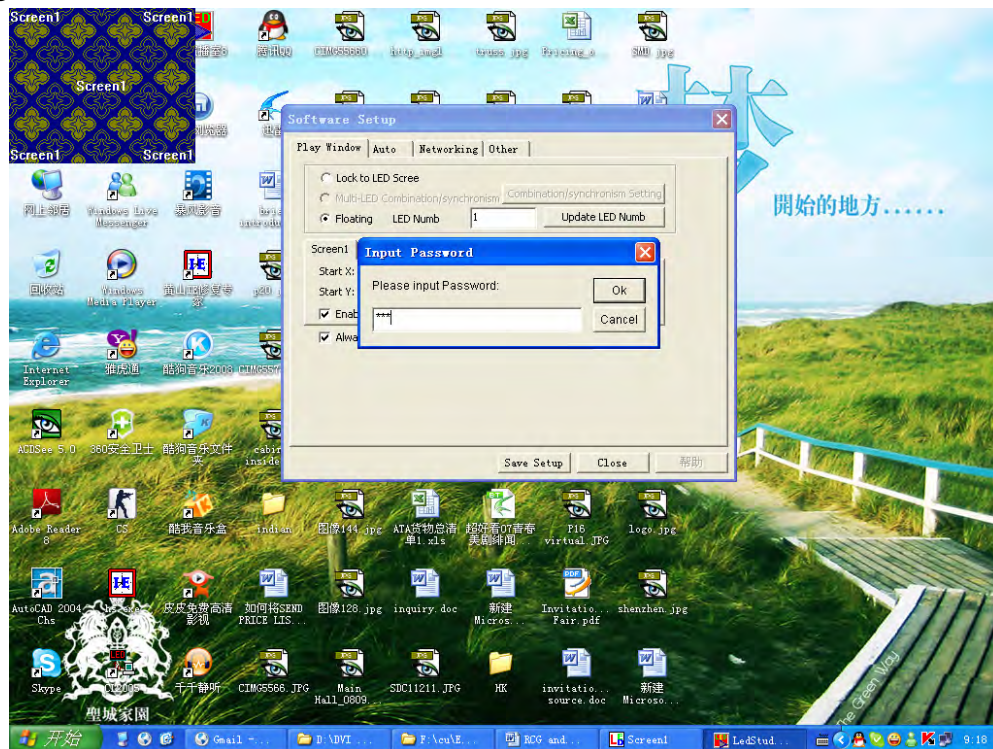

Figure 4
7.in this window, type “ linsn”, Figure 4 will come ask u for password, pls type “168” and u can go in.